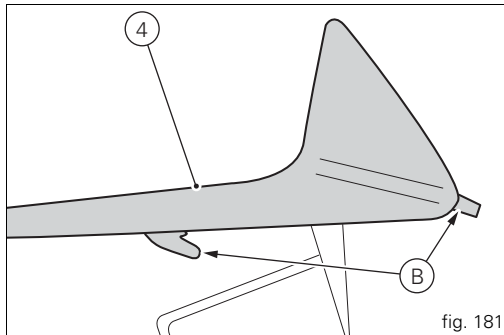

fig. 181
Reconnect the connector (5) and refit the structures that were removed being careful to insert the tabs (B, fig. 181) into the slots (A, fig. 180) made in the headlight fairing.